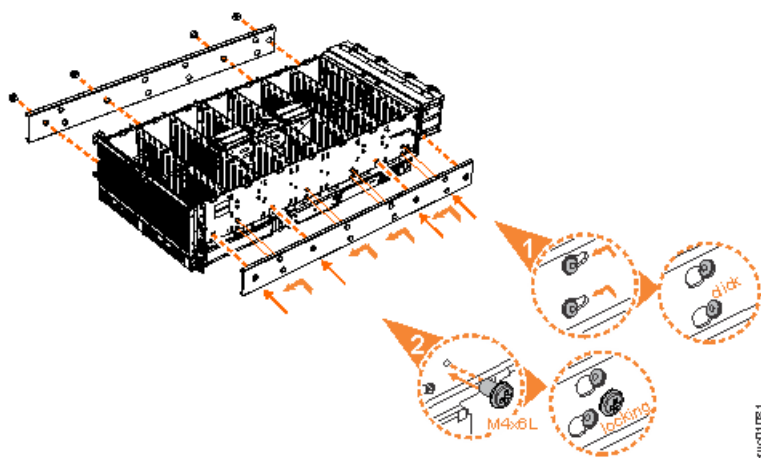

Figure 25. Attaching the inner rail section to the enclosure
5. Install the inner section of the rail onto each side of the expansion enclosure, as shown in Figure 25 on page 46.